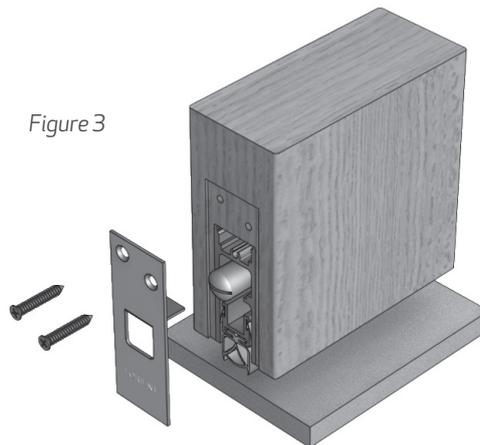

Figure 3
**Step 9** Pre-drill and screw fix the end plate and slide the seal into the groove ensuring that the actuator button is on the hinge side. Next, pre-drill and screw fix the remaining end plate to hold the seal in position. See Figure 3.